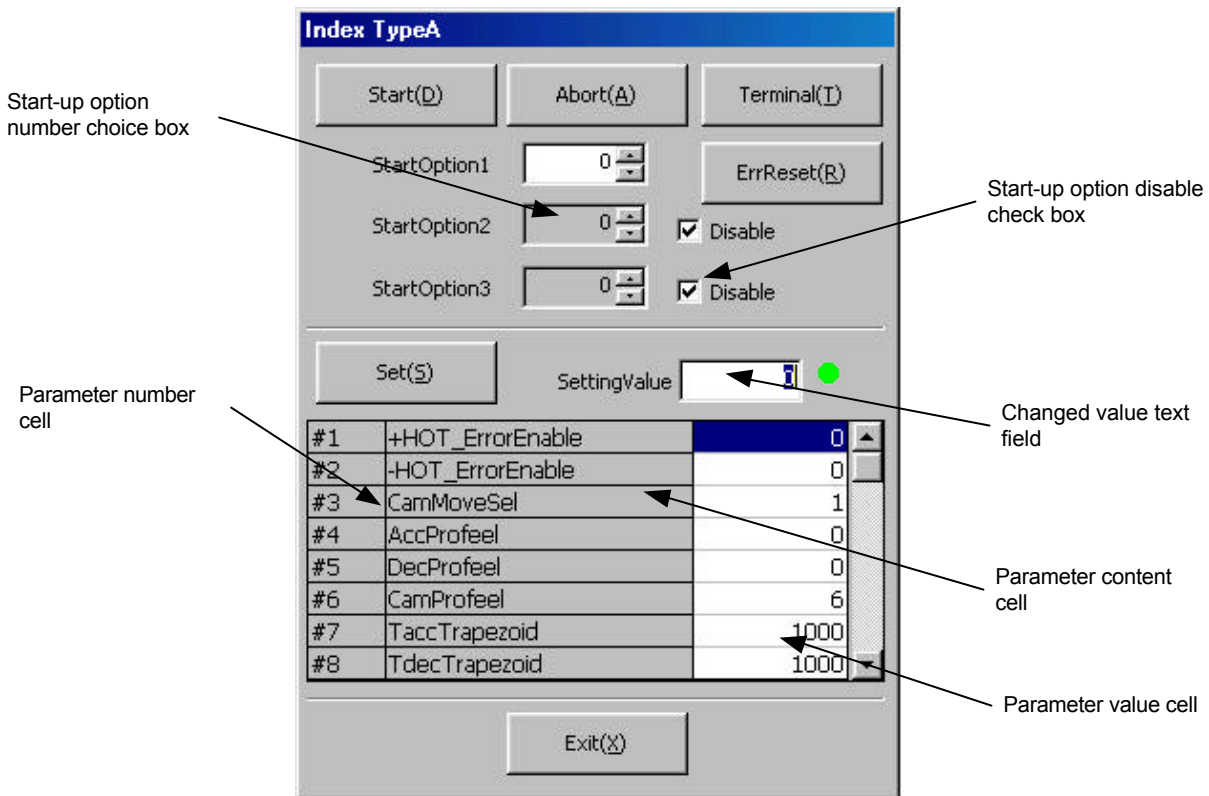

Figure 7.23 “Index TypeA” dialog box
Click “*IndexTypeA (A)*” in the “DriveMenu” dialog box to display the “Index TypeA” dialog box (see Figure 7.23). If the connection with the driver is established, the current values of the related parameters are read and can be edited.